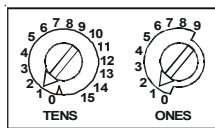

Figure 1: Rotary Decade address Switch
1. Set the sensor address (see Figure 1) by using a flat blade screwdriver to turn the two rotary switches, selecting the desired number between 01 and 159. **Note:** Some control panels are only able to use 99 addresses. Check with the fire panel manufacturer to clarify this. Record the address on the label attached to the base.